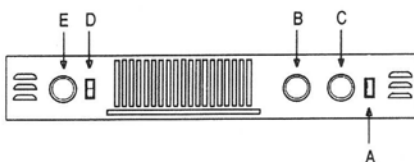

FIGURE 9
2. To locate controls refer to FIGURE 9.